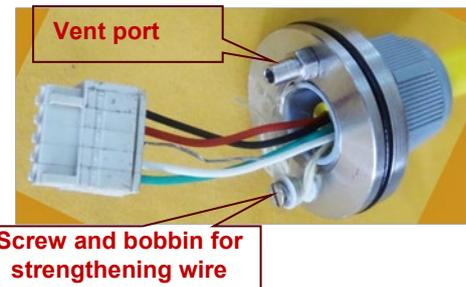

Figure 8-14: Connecting the sensor
8.7.17 Next step is to securely fasten the kevlar reinforcement (looks like a bunch of fine yellow threads) to the cable gland assembly. Remove screw and bobbin from the cable gland assembly. Refer to figure 8-14.
8.7.19 Secure the screw as shown in the figure 8-14.